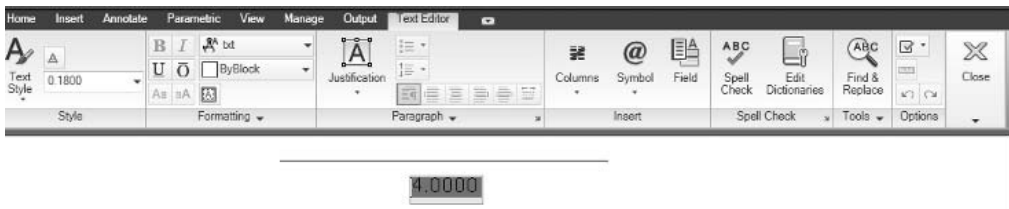

Figure 8-20 The Text Editor
*The **Text Editor** will be displayed, as shown in Figure 8-20. Select the default dimension value and then choose the **Underline** button from the **Formatting** panel of the **Text Editor** tab of the **Ribbon** to underline the text. Click anywhere in the drawing area to exit the **Text Editor** tab.*